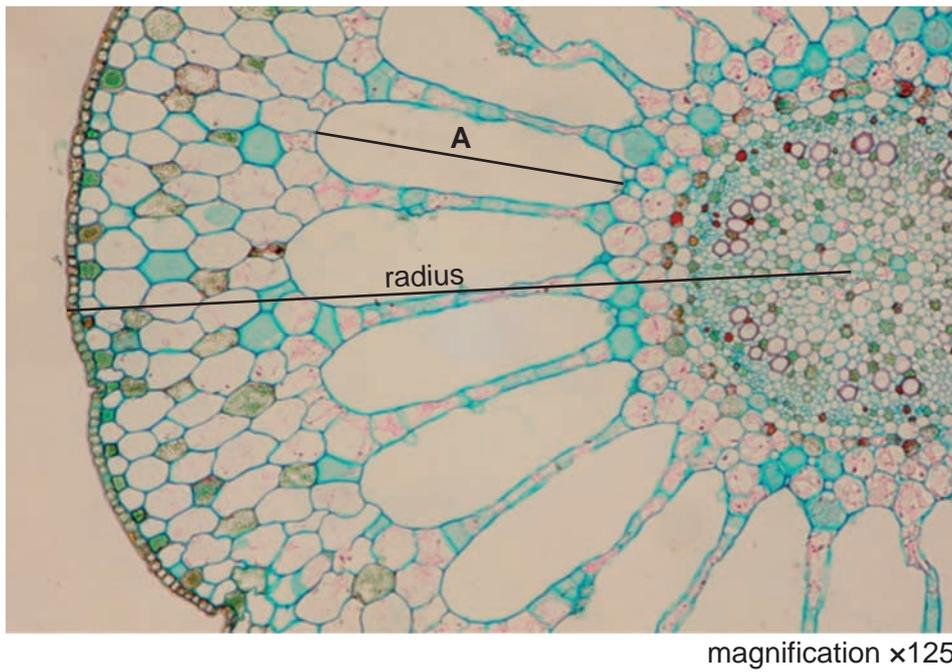

Fig. 2.1
- (b) Fig. 2.1 is a photomicrograph of a stained transverse section of a stem of a different plant species.
- (i) Calculate the **actual** length of the line **A** shown on Fig. 2.1.
- (ii) A student observed a different plant of the same species shown in Fig. 2.1. The student determined the ratio of the radius of the stem to the length of one air space as 266:82.
The actual radius of the stem in Fig. 2.1 is 825 μm .
Determine the simplest ratio of the radius of the stem in Fig. 2.1 to the length of an air space (line **A**).
- (iii) Suggest a habitat where this plant might grow and one observable feature shown in Fig. 2.1, which enables it to live in this habitat.
- (c) Prepare the space below so that it is suitable for you to record observable differences between the specimen on **K1** and Fig. 2.1.